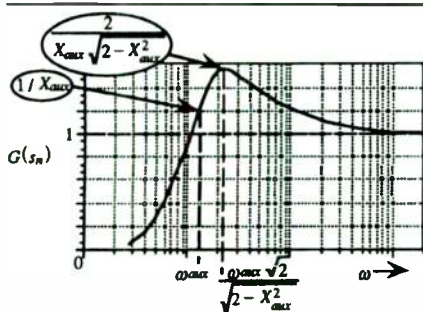

FIGURE 17: Ancillary parameters shown on the high-pass equalization curve.
The resistance and capacitance values in the equalization section of the electronic filter circuit are shown in Fig. 4. They have been determined using a damping factor $X_{AUX} = 0.5176$, and a peak frequency $f_{PK} = 23.5\text{Hz}$. Both γ and K have been assigned a value of one. The specific location of the various constants are shown in Fig. 17. This graph represents the function described in equation (23).